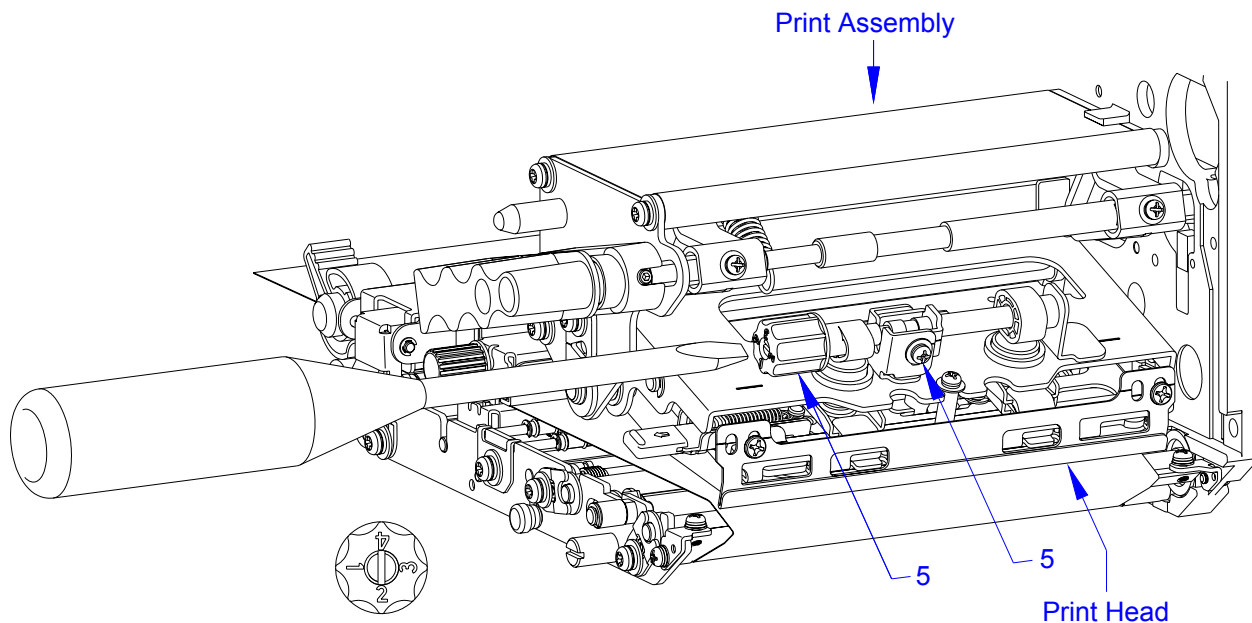

Figure 6-6, Print Head Pressure Adjustment
To adjust the pressure, begin test printing and slightly loosen set screw (1, Figure 6-6). Then rotate dial (2) to each position and monitor printing characteristics for each position. Optimum pressure is achieved by the disappearance or reduction of prevailing negative print characteristics. Retighten set screw (1) when the best dial position is chosen.